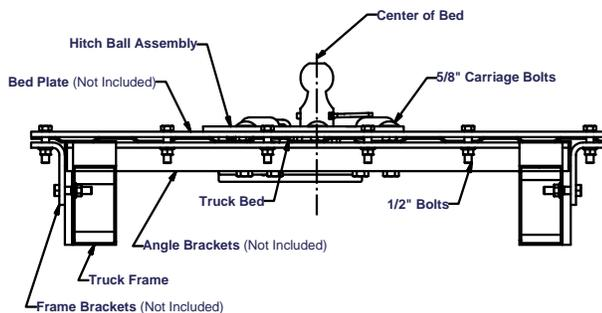

FIGURE 5
8. Drill $17/32$ " holes in front and rear of plate. (Figure 5)
11. Place brackets along each side of truck frame taking care to avoid cross members or other parts. Drill $17/32$ " holes through bed and plate. (Figure 5)
13. Drill $17/32$ " holes through lower angles of brackets and through the truck frame. (Figure 5) Holes must be in center of frame.